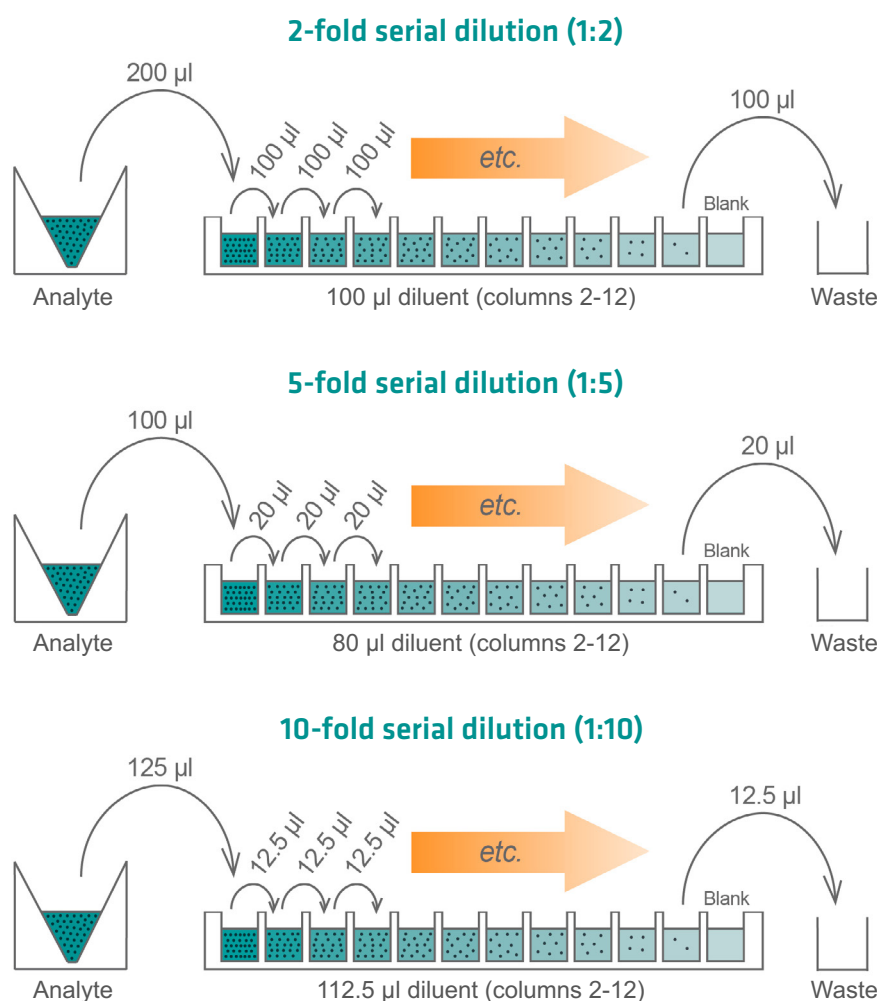

Figure 3: Serial dilutions in 96 well flat bottom plates with the 125 µl VOYAGER.
Specific volumes are handled by the VOYAGER (**Figure 3**). The diluent is transferred in multiple dispensing steps from the reservoir (Position A – A1) into each well of the 96 well flat bottom plate, starting with column 2 (Position B). To ensure precision during plate set-up, a pre- and post-dispense of 5 % of the transferred volume is used for the 10-fold serial dilution, and 10 % for the 2- and 5-fold serial dilutions.
Without changing the GRIPTIPS, the VOYAGER begins the serial dilution by aspirating the specific volume (**Figure 3**) from column 1 of the 96 well flat bottom plate (Position B) and dispensing into the second column. The VOYAGER then mixes 100 μ l (2- and 10-fold serial dilution) or 80 μ l (5-fold serial dilutions) of the analyte/diluent 5 times at maximum speed (10). A blowout is performed to clear the tip of any remaining liquid before aspirating for the following dilution step. The procedure is repeated until column 11 is reached, where the last aspiration is discarded along with the GRIPTIPS (**Figure 4**). Column 12 only contains diluent, and functions as a blank for background noise elimination.